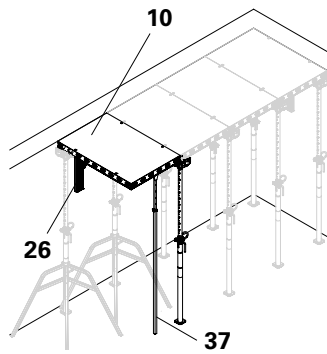

Fig. D2.08
4. Secure every third DP panel with the DUO 82 wall holder (**26**)! (Fig. D2.08)
- The slab formwork is set up row by row in the transverse direction. (Fig. D2.08)